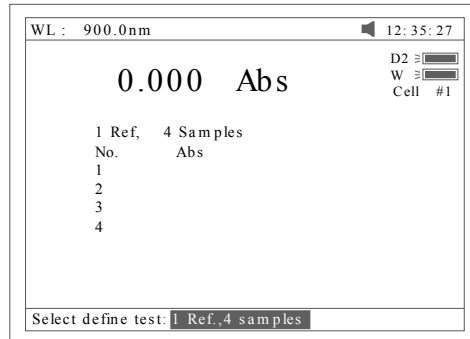

Fig 102
1. Press **[F1]** to setup method (Fig 102). There are 8 items (1 ref. 1 sample, 1 ref. 2 samples, 1 ref. 3 samples, 1 ref. 4 samples, 1 ref. 5 samples, 1 ref. 6 samples, 1 ref. 7 samples, N refs. N samples) for selecting. We take “1 ref. 4 samples” for example, Fig 102